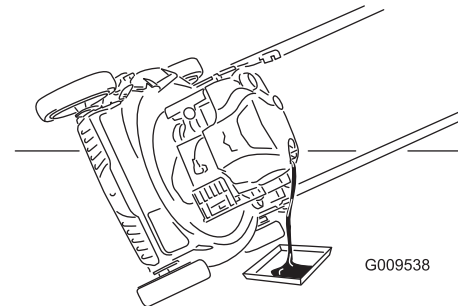

Figure 29
7. Tip the machine onto its side, with the oil-fill tube down, to drain the used oil through the oil-fill tube into the oil-drain pan (Figure 29).